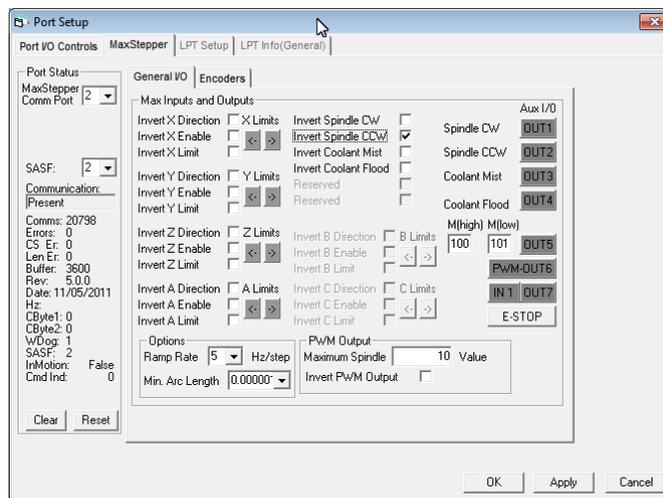

Figure 2
5. Select the **MaxStepper** tab (Figure 2).